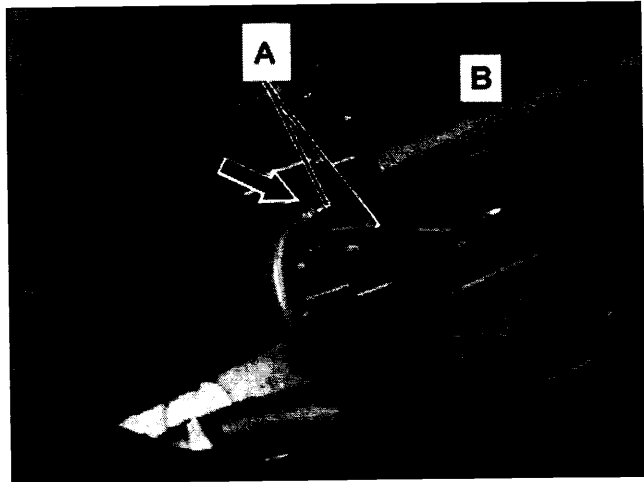

Figure 14
12. Remove cable tie (arrow, Figure 14) securing ground wires (A) to SBC connector housing (B).